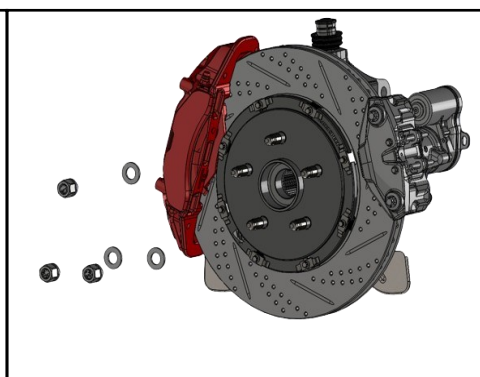

FIGURE 10. REMOVAL OF TEMPORARY ROTOR RETAINING HARDWARE
4. Remove the previously installed lug nuts and washers from the rotor (Figure 10).